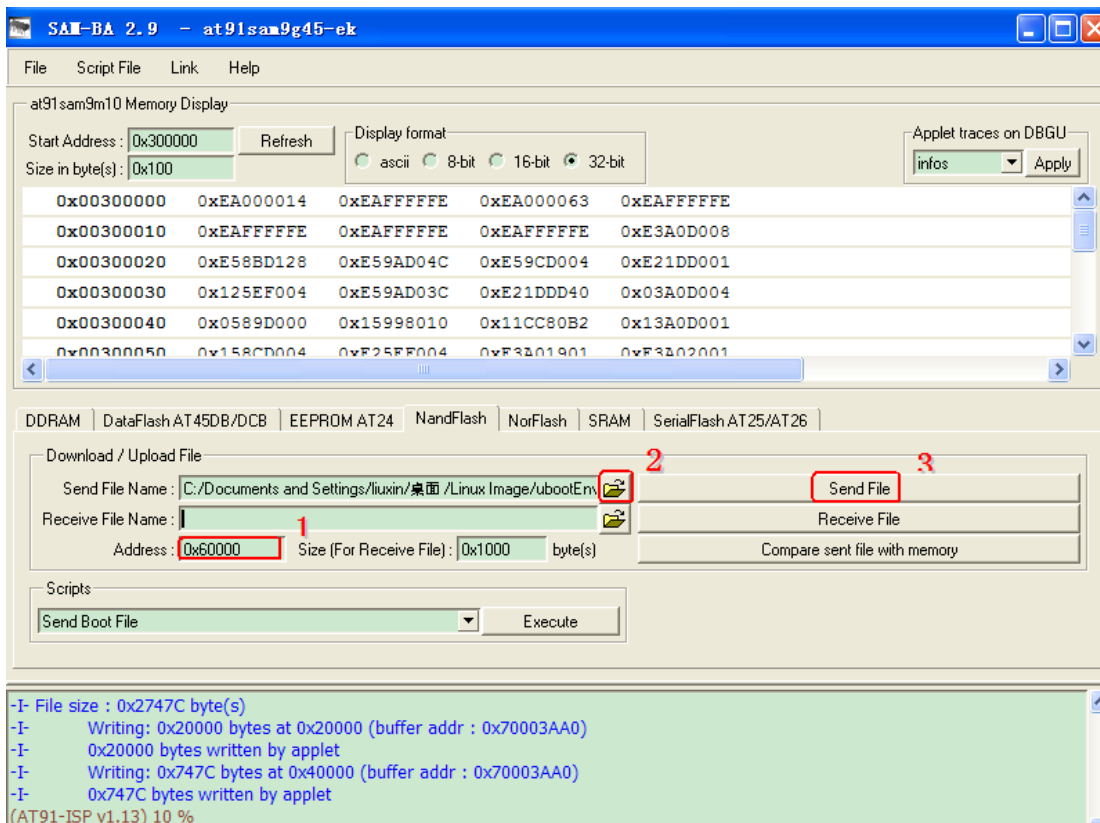

Figure 4-9
(6) Download ubootEnvtFileNandFlash.bin to 0x60000. Refer to figure 4-9: